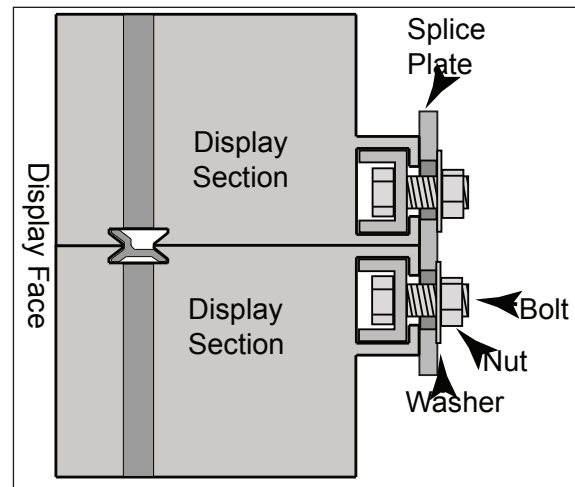

Figure 13: Installed Flat Splice Plate
6. Locate the flat splice plates. Refer to **Figure 13**.